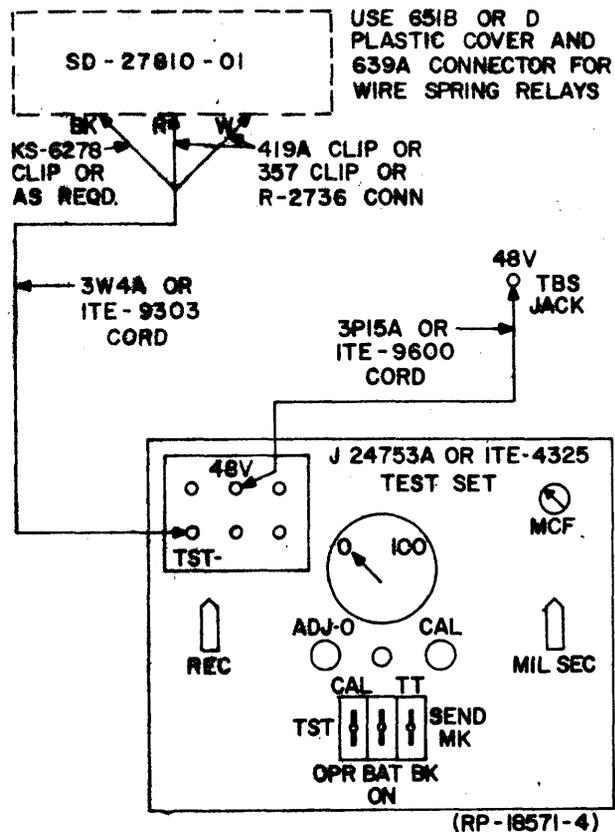

FIG. 1 SETUP FOR J24753A OR ITE-4325 TEST SET
6.11 Make the test connections shown in Figure 1.